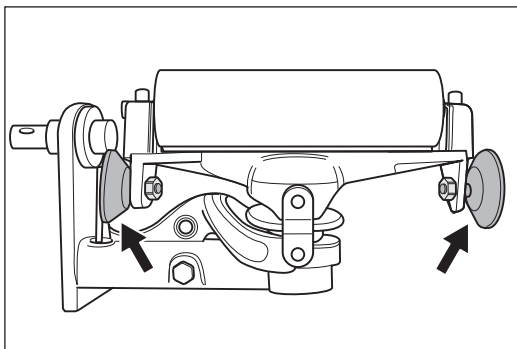

Fig. 64 The two guide rollers at the drive unit must be rotatable easily! Otherwise they must be replaced!
- The two guide rollers at the drive unit must be rotatable easily (Fig. 64)!